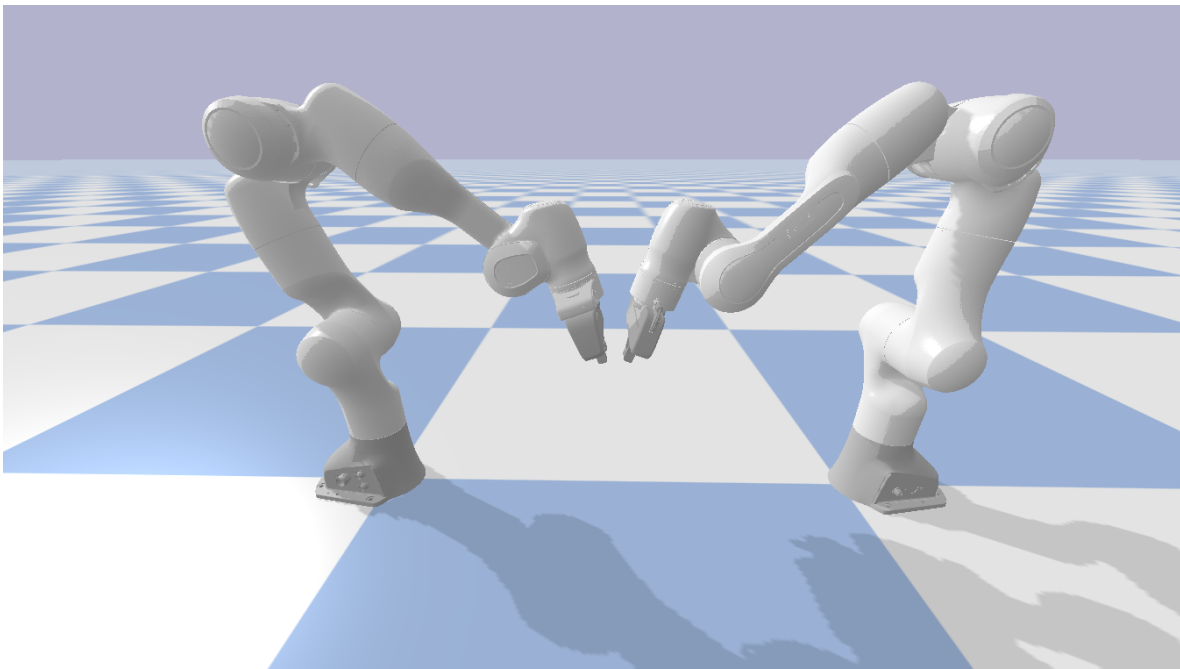

Figure 3: Robot configurations for grasping the object
2. The first phase foresees to move the tool frames to the grasping points, by implementing the *Tool move-to* equality task for both manipulators. **N.B Each manipulator has his own Task Priority Inverse Kinematic Algorithm.** Define the goal frames for each manipulator such that their origin corresponds to the grasping points. **HINT:** the position of the grasping points can be computed by knowing the origin of the object frame  ${}^wO_o$  and the object length  $l_{obj}$ . The goal orientation of the tool frames is obtained by rotating the tool frames 20 deg around their y-axis; the manipulators should reach the configuration depicted in Figure 3.